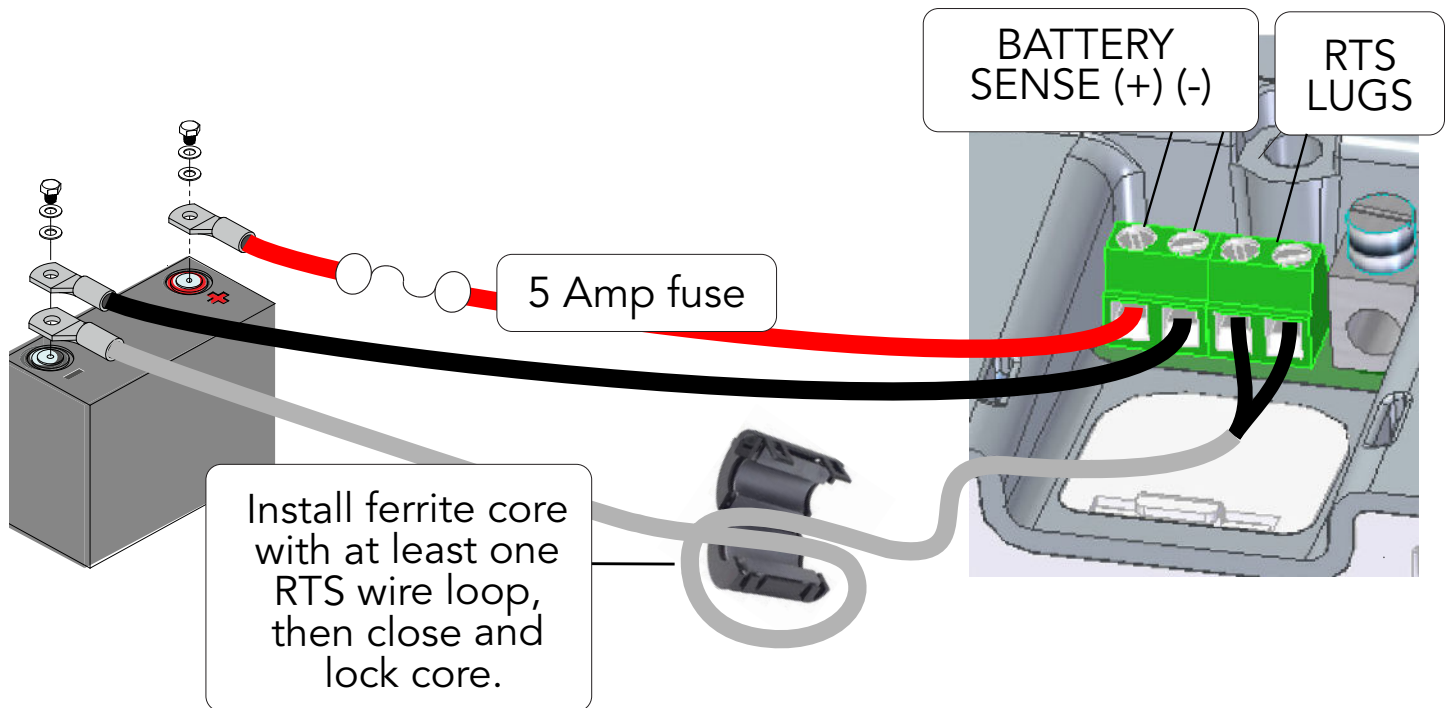

Figure 3-3. Accessory installation detail
Three (3) ferrite chokes are included for individual installations around an RTS cable, PV (+) and (-) cables (in one choke) and an Ethernet cable. See Figures 3-3 and 3-4 for installation details conforming to FCC Class B EMI requirements. Each core must be installed as close to the GenStar MPPT as possible.
**For Accessory Wiring, refer to schematic in Figure 3.3 below when following 3.4.1 and 3.4.2 on next pages.**
Refer to Figure 3-3 above.
Due to connection and cable resistance, voltage drops are unavoidable in all power cables that carry current (See Figure 3.3 above). If Battery Sense wires are not used, the controller must use the voltage reading at the battery power terminals for regulation. This voltage may differ from the actual battery bank voltage due to voltage drop.
The two sense wires can range in size from 1.0 to 0.25 mm2 (16 to 24 AWG), and should be cut to length as required to connect the battery to the voltage sense terminals. The two-position terminal - to the left of the Load (+) terminal (beyond the RTS terminals) (see Figures 3-3 and 3-4) is used for the battery sense connections. A twisted pair cable is recommended but not required. Use UL rated 300 Volt conductors. The voltage sense wires may be pulled through conduit with the power conductors.
An RTS can be added at any time during system installation (refer to Figure 3-3).
Connect the RTS to the two-position terminal located immediately to the left of the Load (+) terminal (see Figures 3-3 and 3-4).